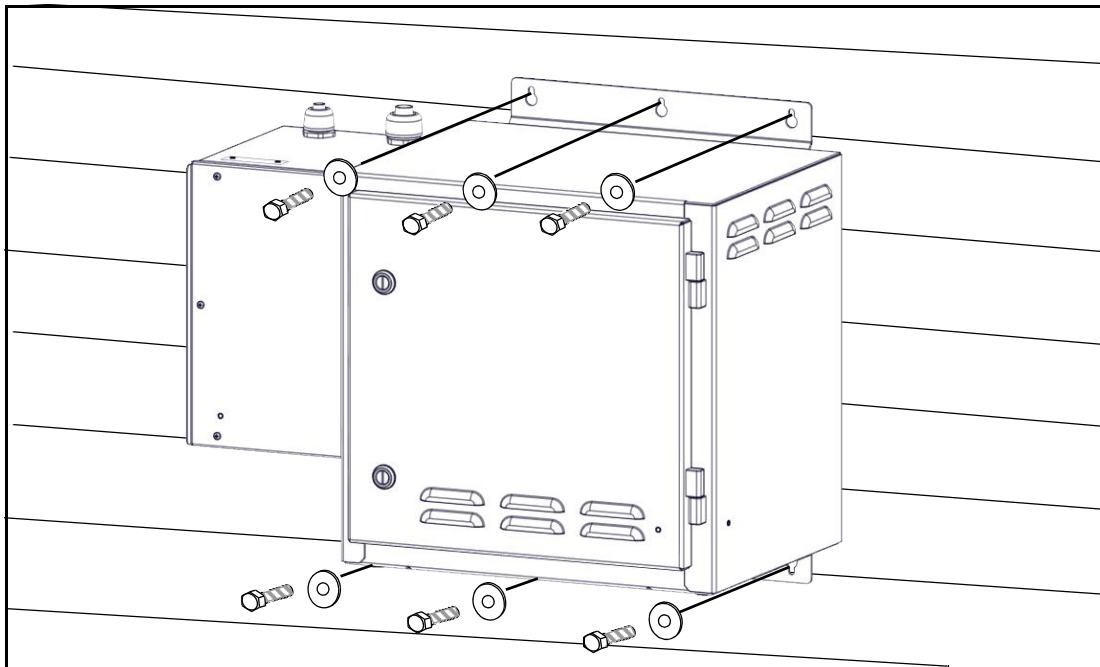

Figure 4-9 Wall mounting the CS19-BBU-005 battery cabinet
3. Mount the battery cabinet on a concrete wall, stud wall, or wall with 3/4" plywood backing board. See Figure 4-9 below, and follow these steps: